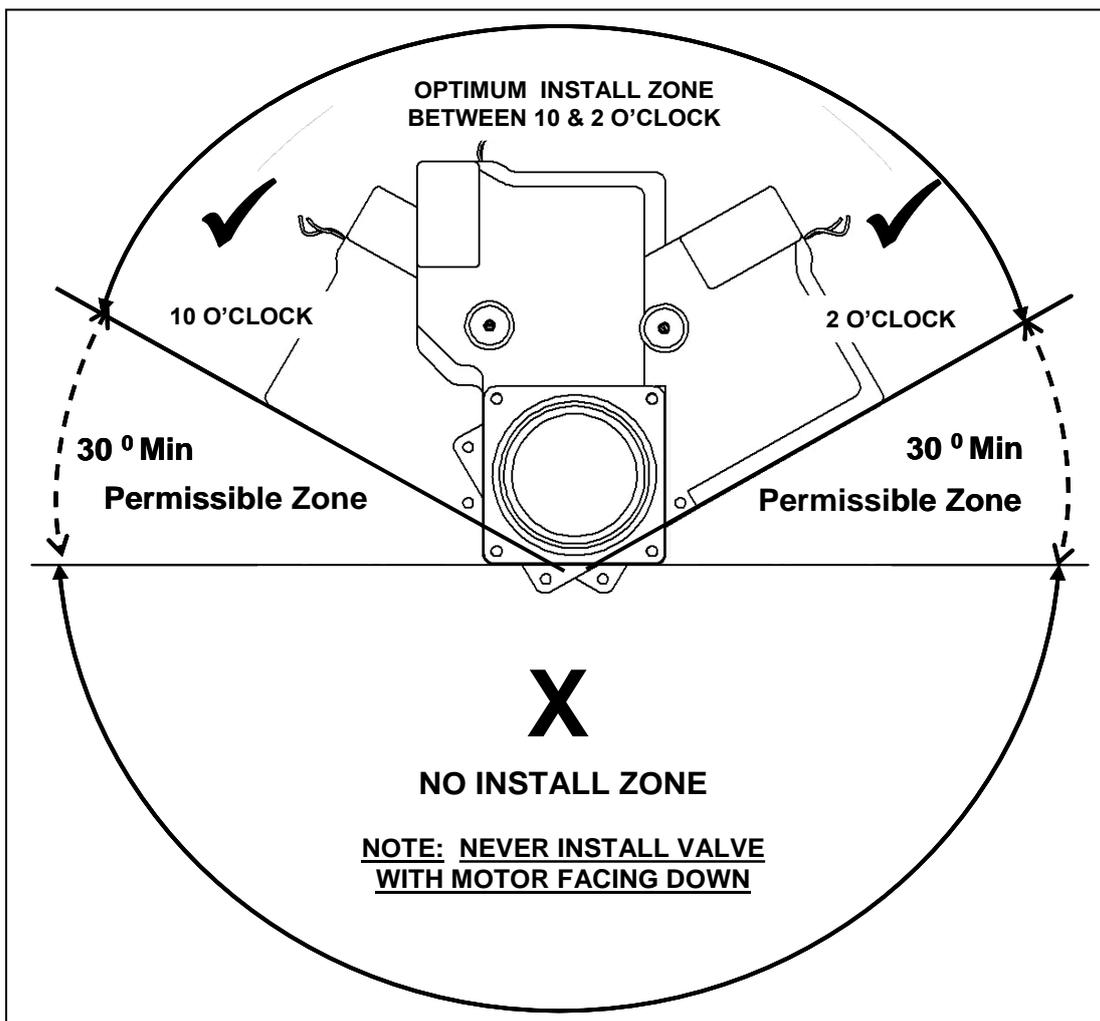

Fig.4
- Never install the Drain Master with the motor/gear/gate housing down. Must be installed vertically (see Fig. 4 How to install)
**Step 7:** Pay careful attention to the Optimum Install Zone shown in **Fig. 4** – the most ideal position is vertical with the motor up at the highest point.
Ref to Fig. 4: The optimum install zone is between 10 O'clock and 2 O'clock and within this zone the most ideal orientation is vertical (90 Deg). If the optimum zone Installation is not feasible, installation within the 30 Deg Permissible zone is acceptable. Refer Step 7 above.